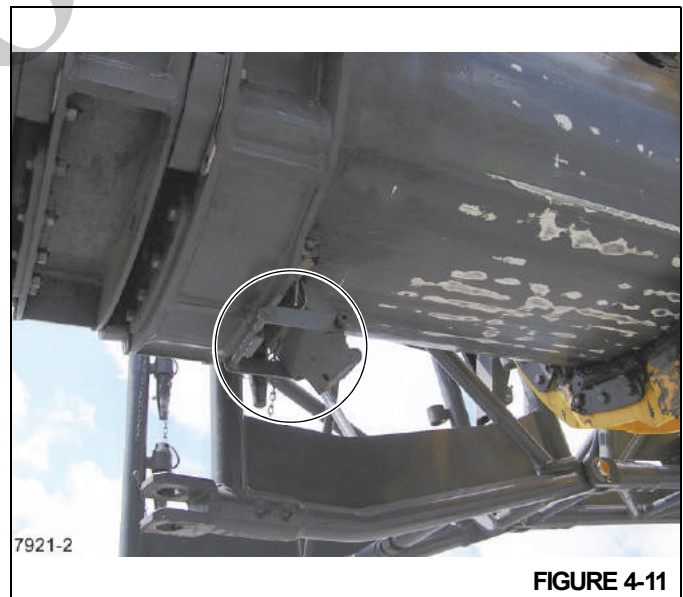

FIGURE 4-11
7. Extend the boom enough to disengage the spring loaded boom stop block (Figure 4-11).